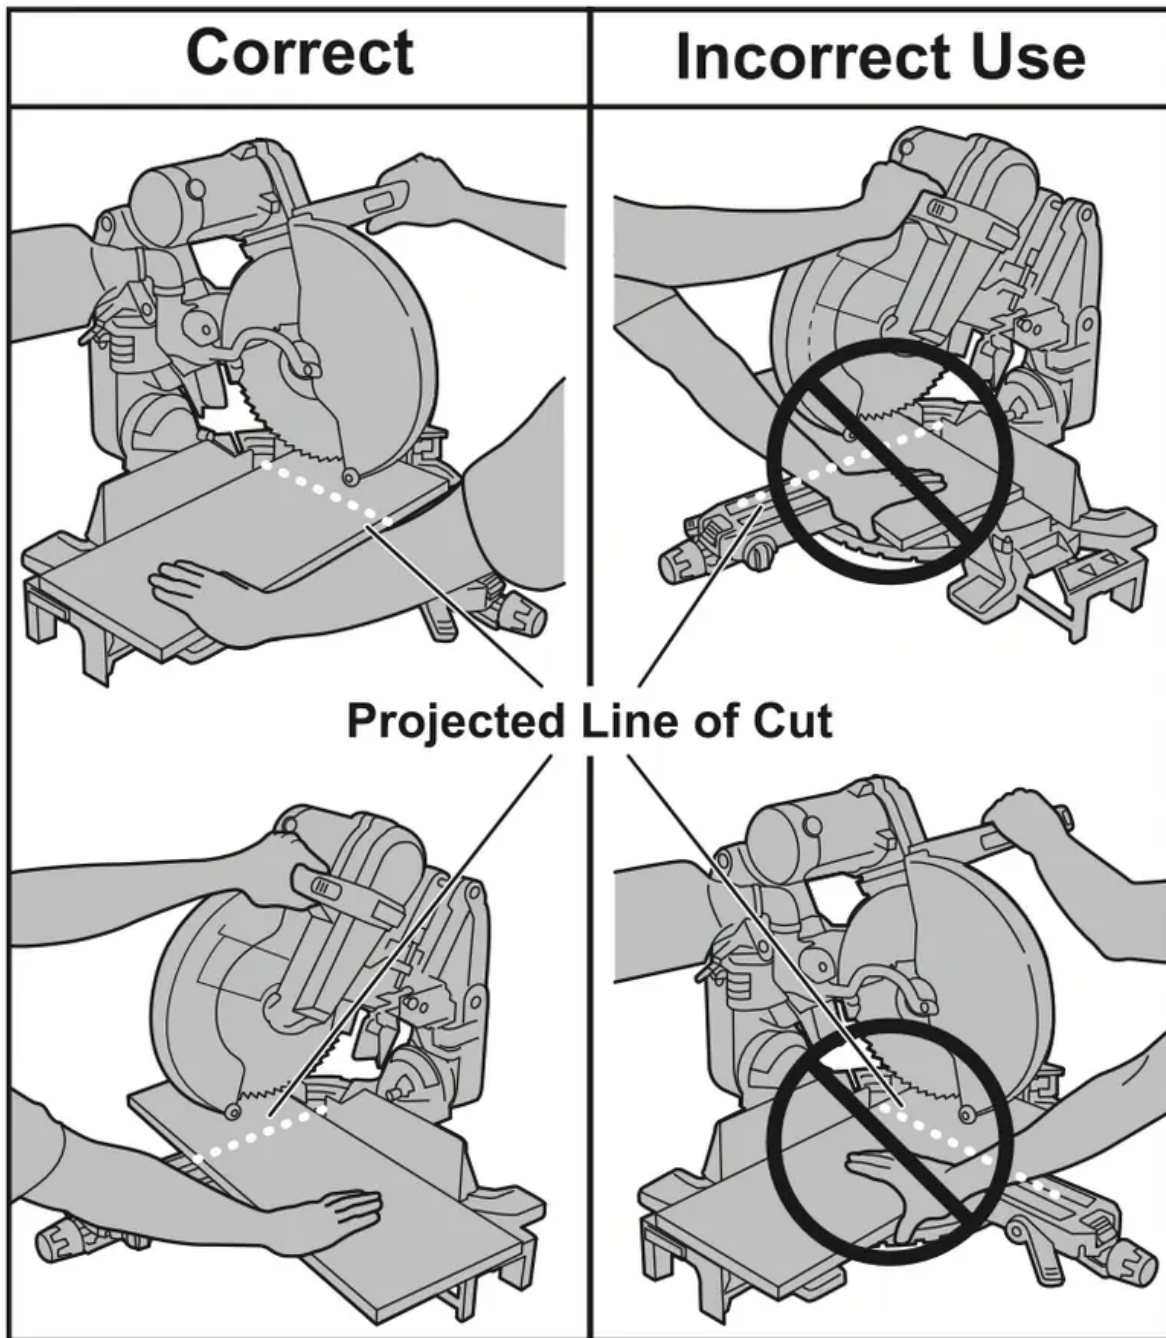

Figure 30. Hand Positions
WARNING: Properly position to your make body cutting and hands easier and safer. failure to follow all instructions, identified below by bullet (I) symbols, may result in serious personal injury (see figure 30).
DRY RUN – It is important to know where the blade will intersect with the workpiece during cutting operations. Always perform the simulated cutting sequence with the power tool switched “OFF” to gain an understanding of the projected path of the saw blade. Mentally note where the path of the saw blade will fall and set up your work to keep your hands and arms out of the path of the spinning blade. Adjust your clamps and fences so that the smooth lower guard and cutting action is not interfered with during cutting operation (see Figure 30).